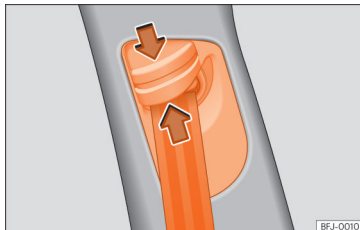

Fig. 94 Near the front seats: seat belt height regulator.
- Keep the guide device pressed down in the direction of the arrow »» Fig. 94.